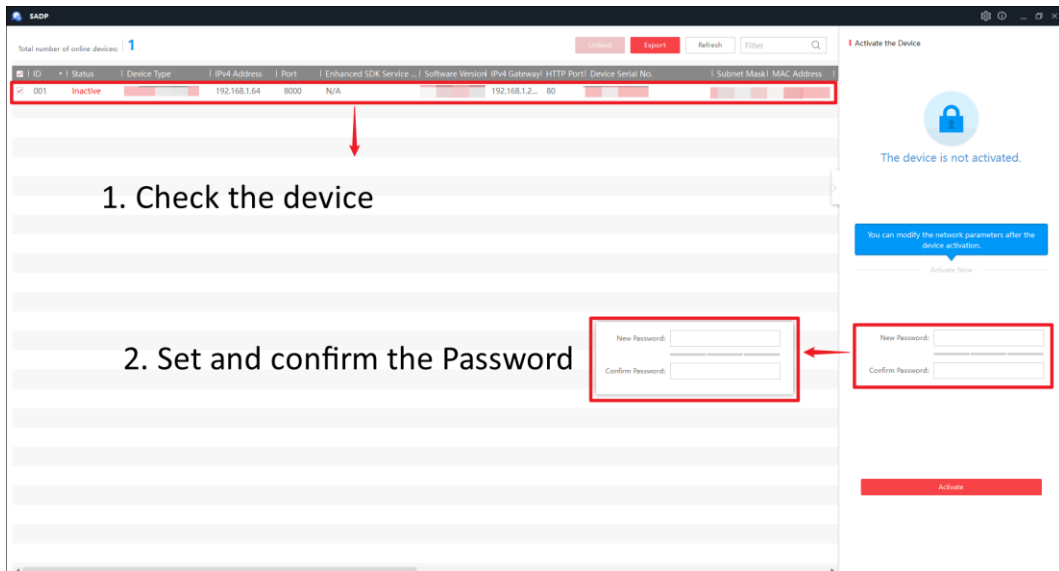

Figure 4-1 Activate Camera
Step 2 Check the device to be activated, set the device password at "Activate Device", and click "Activate" to complete activation, as shown in Figure 4-1.